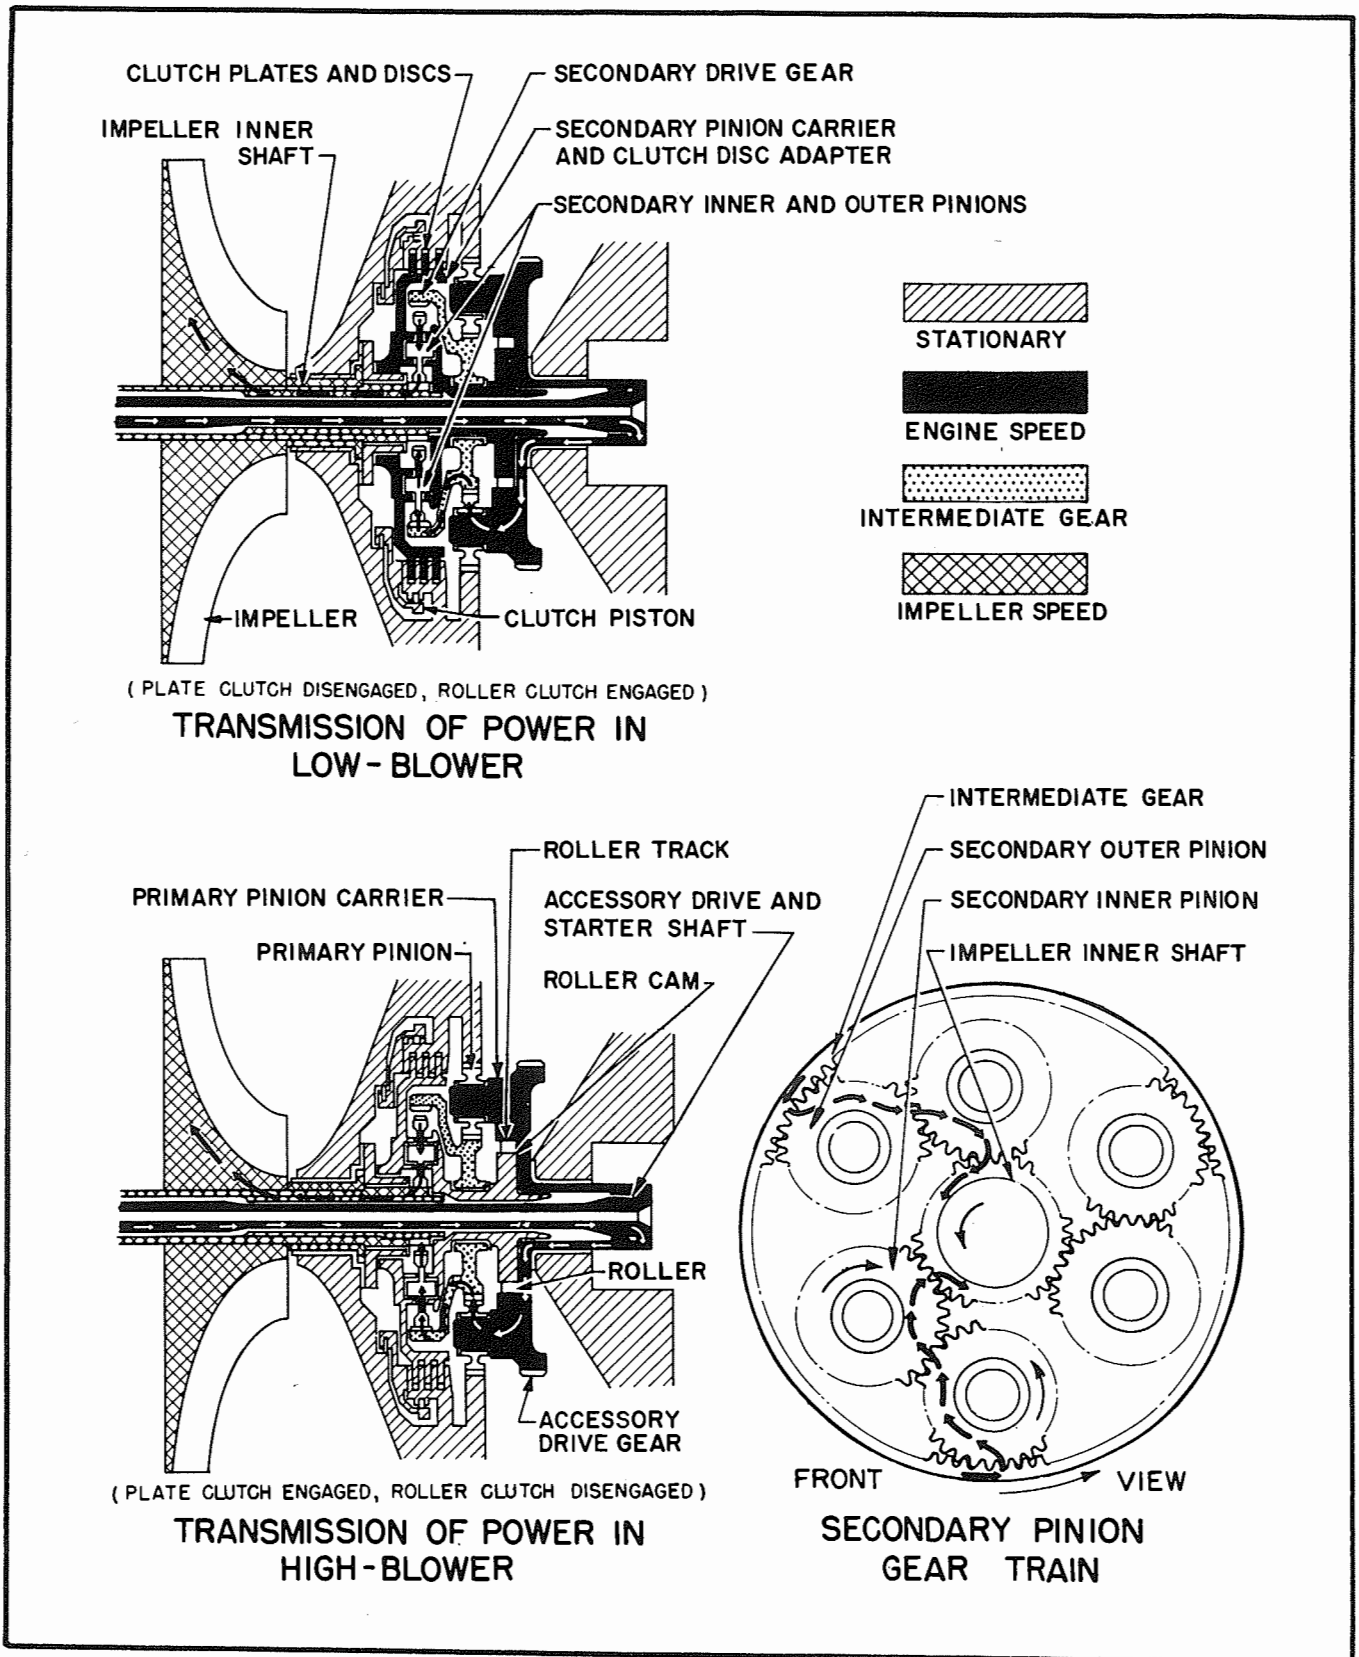

Figure 2-1. Two Speed Impeller Drive
**2-22. TWO-SPEED IMPELLER DRIVE.** Basically, the two-speed impeller drive consists of two planetary gear trains (primary and secondary) in series, an intermediate gear, a roller clutch, and an oil operated plate clutch. Figure 2-1 is a schematic view showing the principles of operation with the component parts in their relative positions.
**2-59. SUPERCHARGER CLUTCH CONTROL.** The clutch control valve located in the rear pump and sump body, when pulled to its rear position, permits engine pressure oil to flow through drilled passages and tubes to the multi-plate clutch piston. Oil pressure on the forward side of the piston causes the piston to move rearward and engage the clutch. This stops the impeller drive secondary pinion carrier, so that the impeller operates in high speed ratio. See figure 2-1.